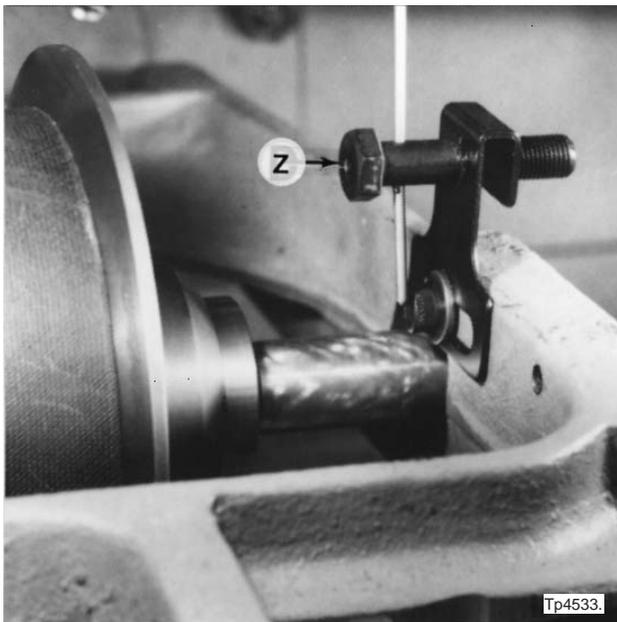

Figure 4.77 - Indicator Rod Bracket
27. Loosen screw "Z", Figure 4.77, in the motor compartment to release the speed indicator rod.
21. Reposition the tip of the indicator rod at 3000 rpm on the variable speed control head and tighten screw “Z”, Figure 4.77, in the motor compartment.